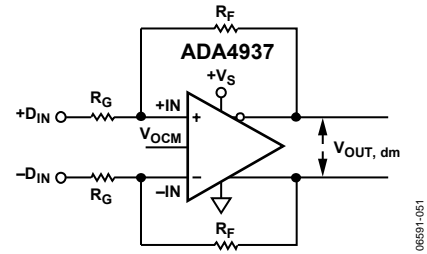

Figure 51. ADA4937 Configured for Balanced (Differential) Inputs
The effective input impedance of a circuit depends on whether the amplifier is being driven by a single-ended or differential signal source. For balanced differential input signals, as shown in Figure 51, the input impedance ( $R_{IN, dm}$ ) between the inputs (+DIN and -DIN) is simply  $R_{IN, dm} = 2 \times R_G$ .
**Table 10. Differential Ground-Referenced Input, DC-Coupled, 1 kΩ Load; See Figure 51**